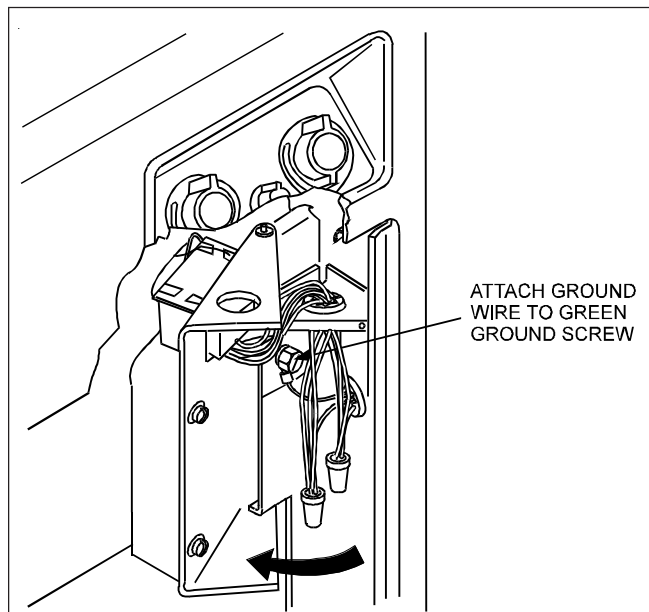

Figure 7. Field Wiring Connections.
2. Connect the wires from the power source to the leads on the right side of the heater in the space behind the ignition control (see Figure 7). Be sure to follow the wiring diagram on page 6 to configure the transformer for the correct input voltage.